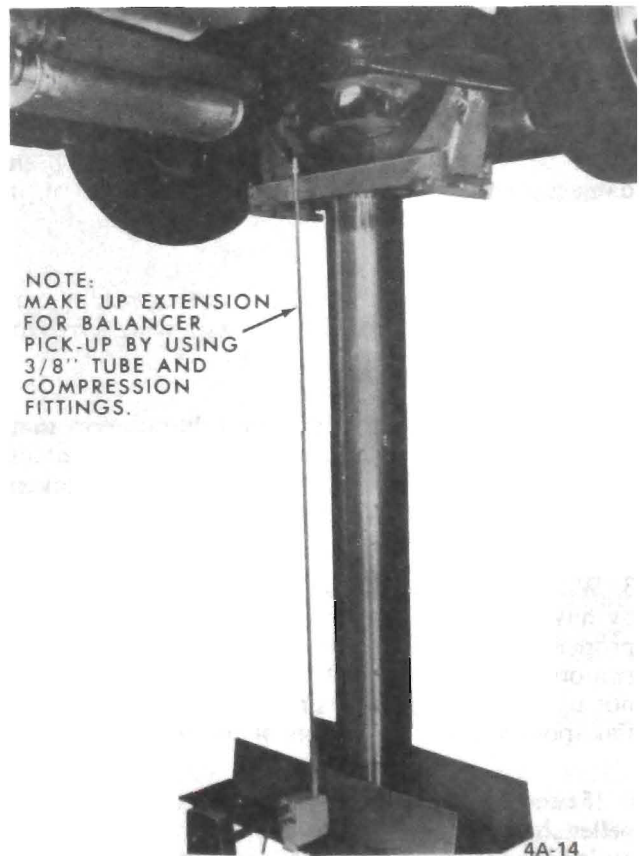

Figure 4A-14 Pick-Up Unit at Differential Pinion Nose
3. Place strobe light wheel balancer pick-up under the nose of the differential. See Figure 4A-14.